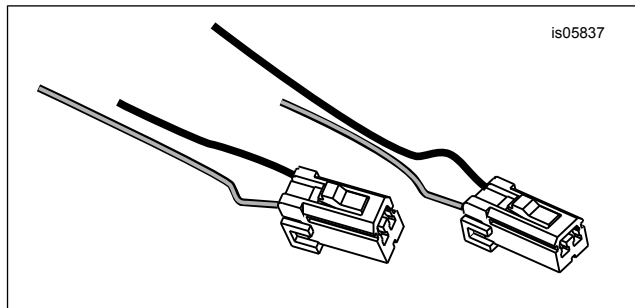

Figure 3. Cut Wire Ends with Connector
The wires must be cut to fit through the new turn signal bar. Remove the black conduit to allow splicing and stagger the cuts as shown in Figure 3 so the conduit will fit over the sealed connectors after the wires are spliced together.
4. See Figure 3. Cut the black (BK) and brown (BN) wires approximately 10–15 cm (4–6 in) from the right turn signal socket housing [18B], staggered as shown. Cut the black (BK) and violet (V) wires of the left turn signal socket housing [19B] in the same manner. Save the cut wire ends with the connectors.